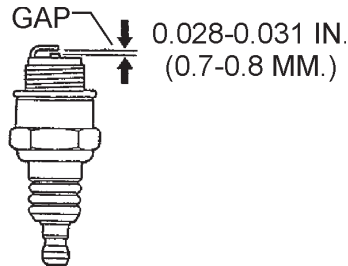

Figure 27. Spark Plug Gap
1. Remove and clean the spark plug (Figure 27).